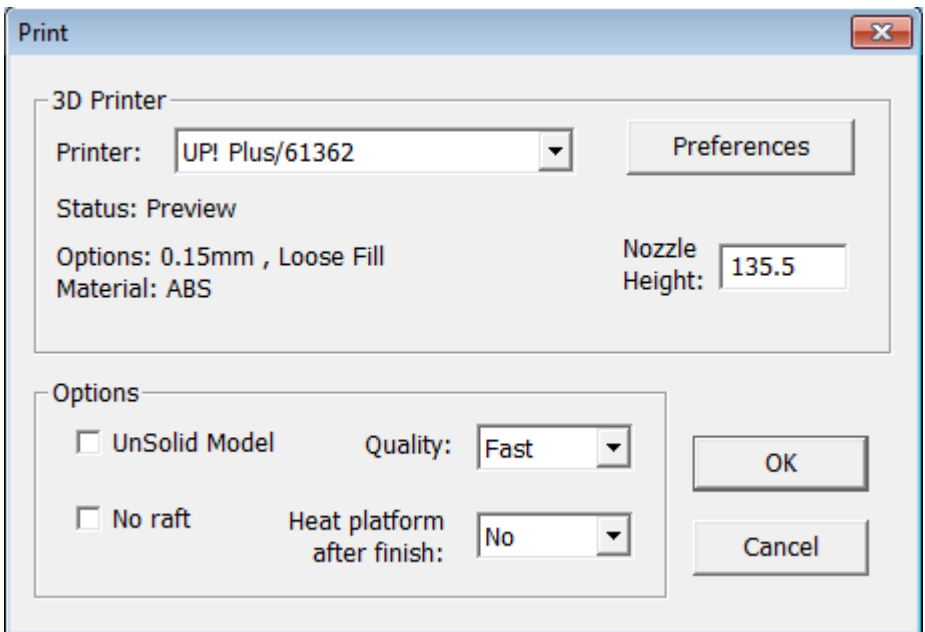

Figure 10: Print Screen
21. Once you have confirmed the time, the final step is to physically print the model. Go to **3D PRINT → PRINT**. A similar box that was shown in Figure 10 will appear. Now, you can click **OK** and the part will begin to print. If anything goes wrong while printing, such as the spool stops feeding or the part starts to curve at one end, click the **STOP PRINT** button on the top of the screen and remove the material and consult the SpaceShop Lead.